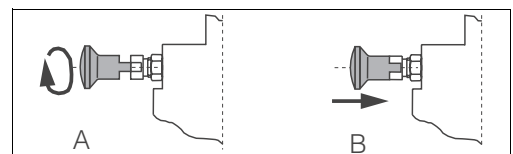

Fig. 14: Stop bolt
2. Turn the stop lock bolt through 90° so that the plastic grooves are located above the recesses (Fig. 14, A).
3. Turn the retractable pipe **clockwise** until the stop lock bolt engages (B).